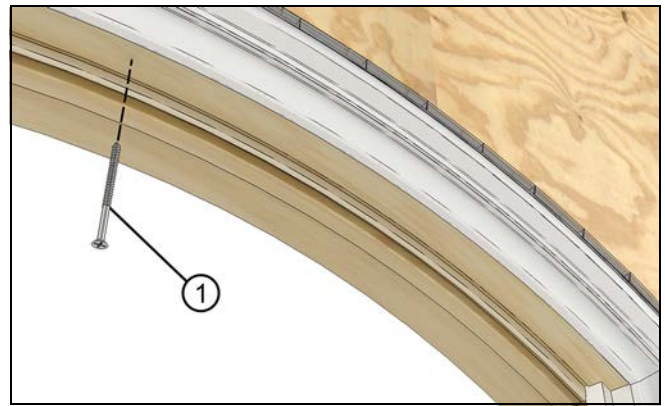

Figure 40
9. On Round Top CW units: Apply #8 X 3" screws through the head jamb. See Figure 40.